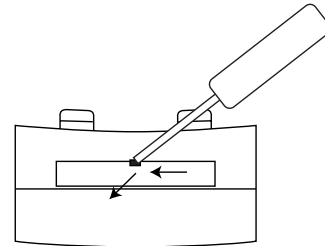

Figure 2
2. Remove the inner battery compartment door by sliding the compartment to the left and then lifting it out with a screwdriver, see figure 2.